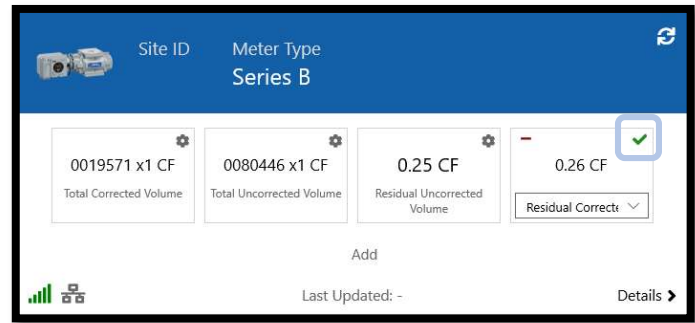

Figure 4: Save Changes
- Click the accept icon  to save the change (Figure 4).